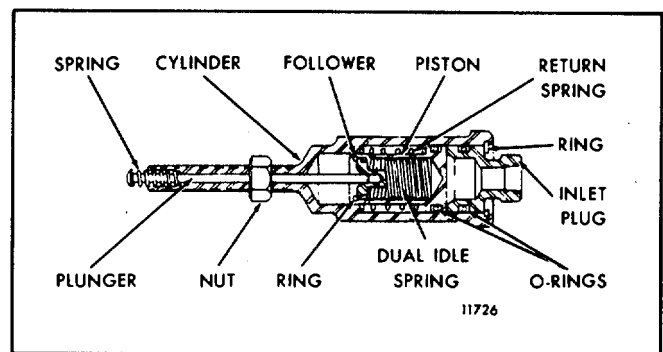

FIG. 2 - Fast Idle Air Cylinder
2. Refer to Fig. 2 and disassemble the fast idle cylinder as follows:
- a. Refer to Fig. 2 and insert the dual idle spring inside of the fast idle air cylinder. Place the spring follower, with the small diameter end down, inside of the spring. Apply pressure on the spring follower and compress the spring enough to expose the retaining groove. Then install the retaining ring in the groove.